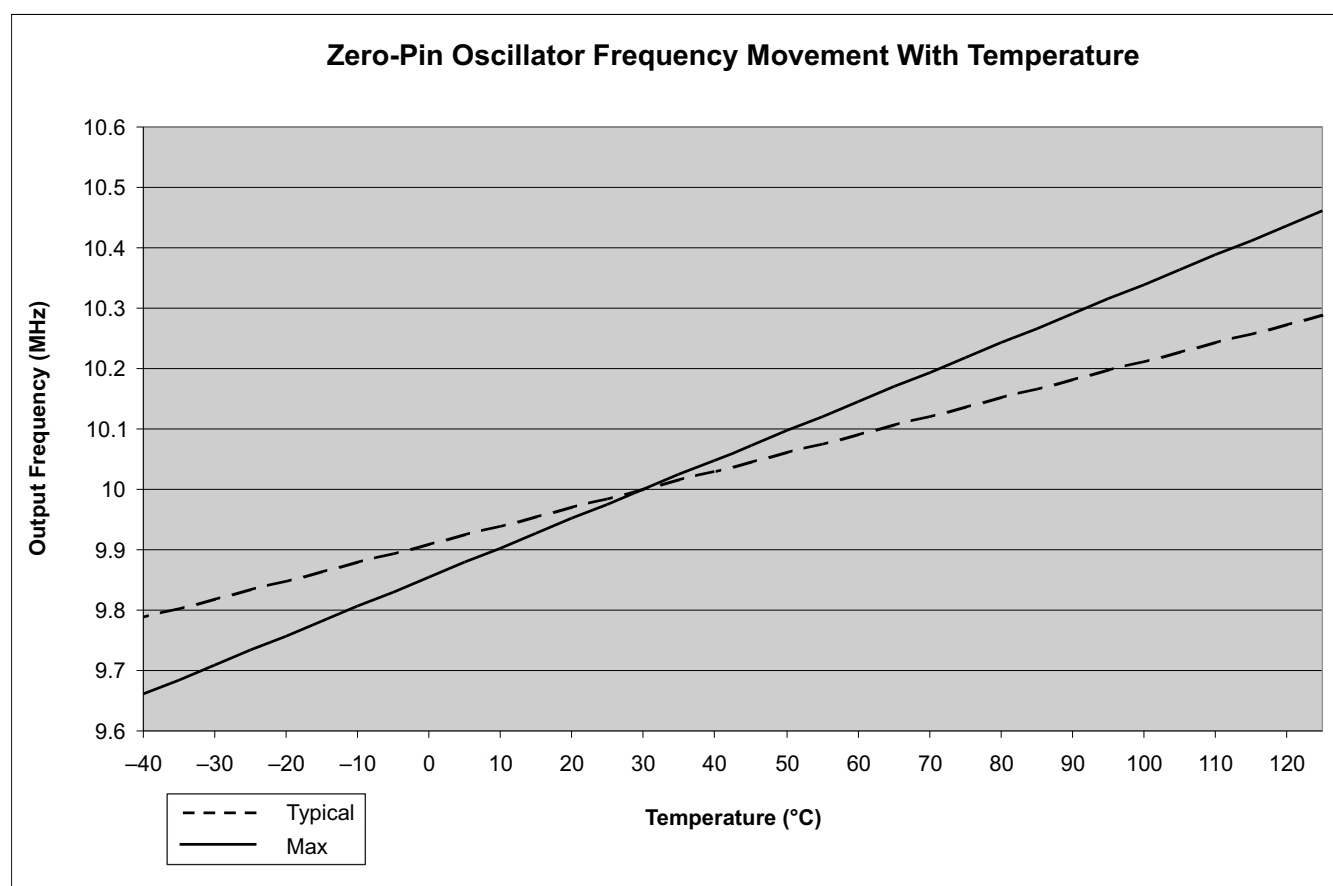

Figure 6-6. Zero-Pin Oscillator Frequency Movement With Temperature
- (1) In order to achieve better oscillator accuracy (10 MHz \pm 1% or better) than shown, refer to the oscillator calibration example in *2803x C/C++ Header Files and Peripheral Examples* (literature number SPRC892), and the *Oscillator Compensation Guide Application Report* (literature number SPRAB84). Refer to Figure 6-6 for TYP/MAX values.
- (2) Frequency range ensured only when VREG is enabled, VREGENZ = V_{SS}.
- (3) Output frequency of the internal oscillators follows the direction of both the temperature gradient and voltage (V_{DD}) gradient. For example: